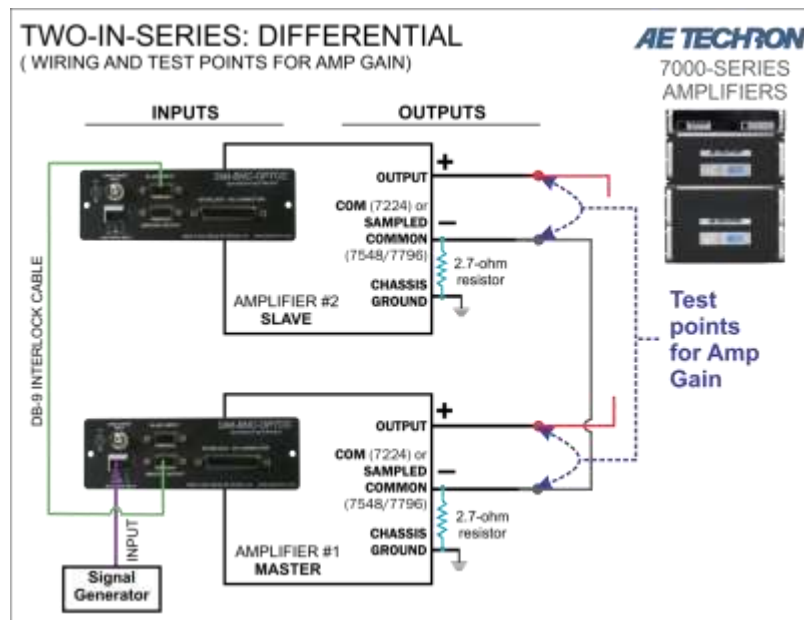

Figure 3.9 – Verifying Amp Gain
2. Apply a sine wave of 5 Vrms at 100 Hz at the Master amplifier input. Using a voltmeter measure across each amplifier's back-panel output connector terminals (OUTPUT to COM or SAMPLED COMMON) to verify an output from each amplifier of approximately 100 Vrms (gain of 20). See **Figure 3.9**. NOTE: If any amplifier's gain varies significantly from the set gain of 20, the amplifier may require servicing. Contact AE Techron Technical Support.